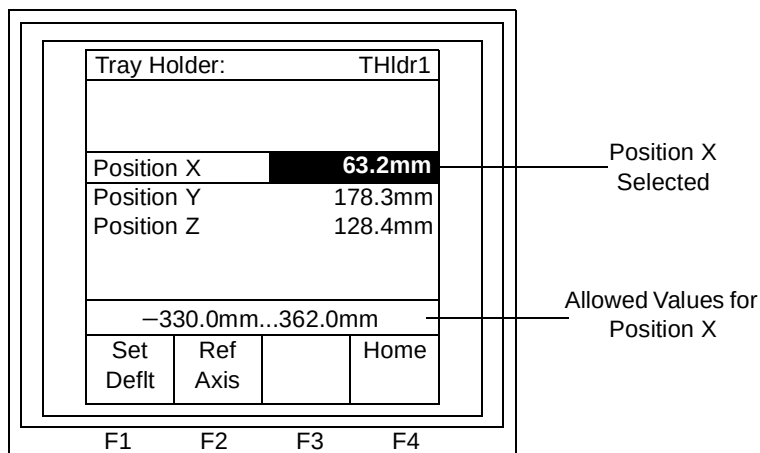

Figure 2-39 Tray Holder: THldr1 Screen After Selecting Position X
3. Press Enter to select Position X. The Position X value is highlighted, the syringe moves to the predefined position on the X-crossrail, and the allowed values for the parameter appear in the status bar (Figure 2-39).